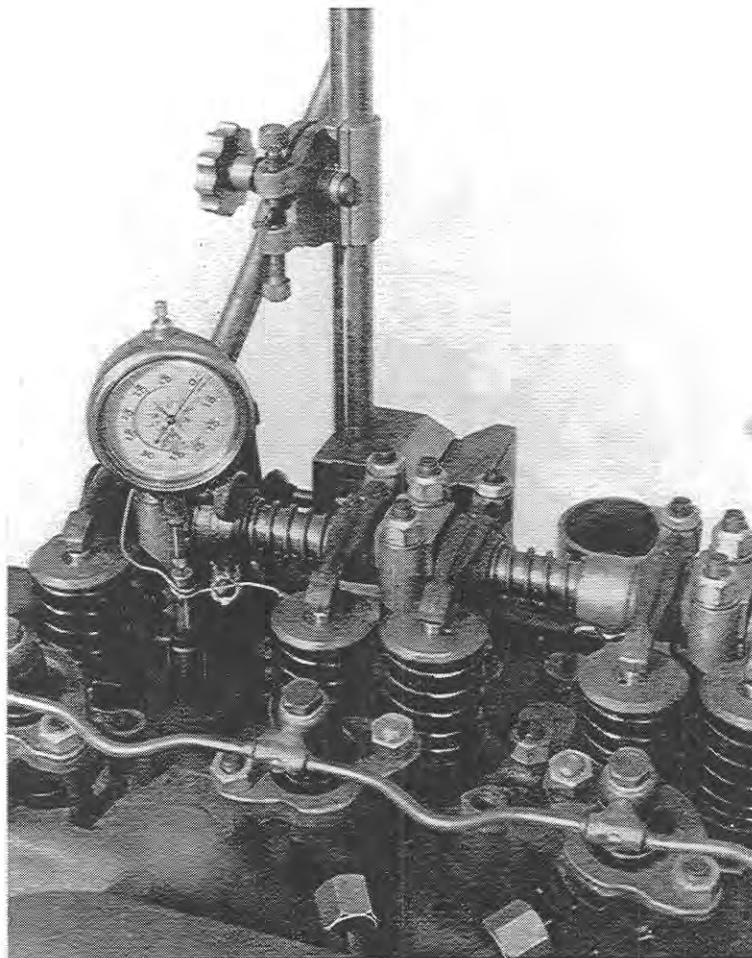

Fig. 8
- 3) Mount a dial-gauge on the valve tip as shown in Fig. 8, ensuring meanwhile that the valve head is firmly seated on the piston crown.